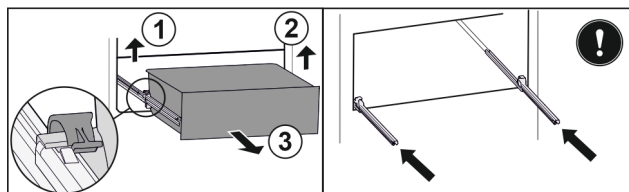

Fig. 34
- Lift left clamp and simultaneously pull drawer forwards on the left. Fig. 34 (1)
- Lift right clamp and simultaneously pull drawer forwards on the right. Fig. 34 (2)
- Remove drawer to the front. Fig. 34 (3)